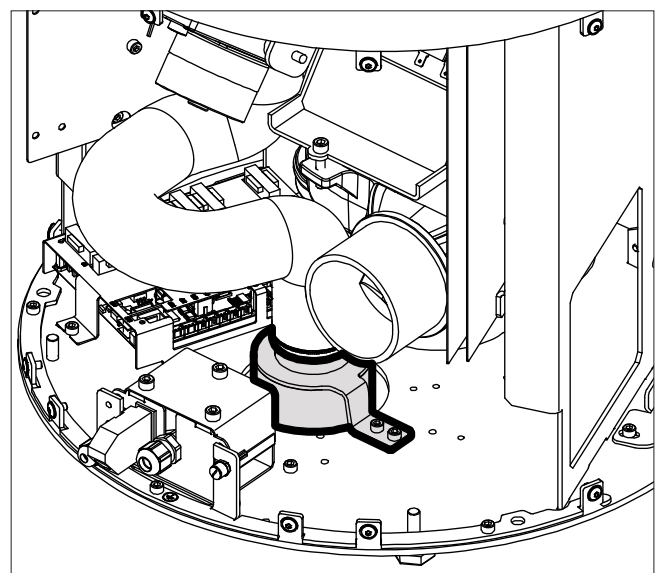

Fig. 4
- Screw the combustion air duct onto the floor plate (Fig.4).